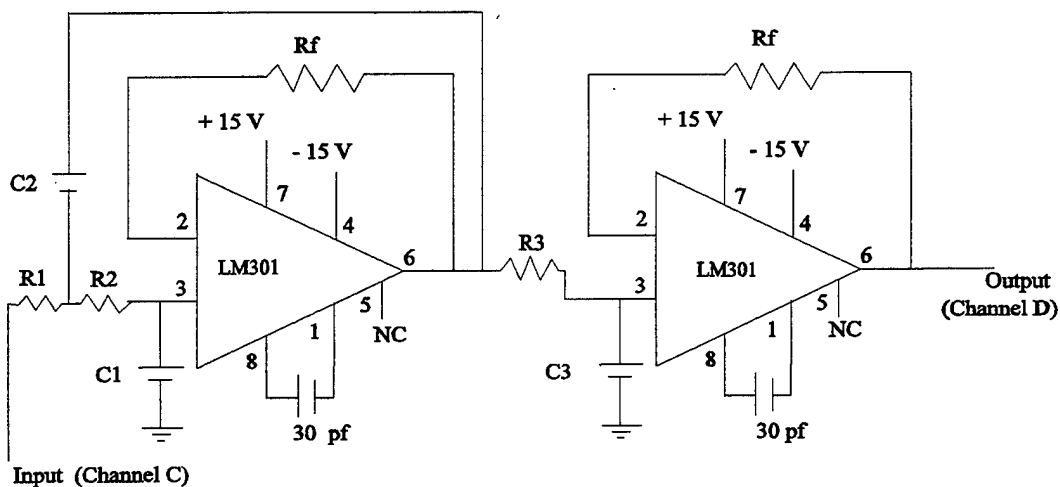

Figure 2 Lowpass Butterworth Filter
g) Turn off all power. Construct the LPF circuit of Figure 2 on the same breadboard. Connect the output (pin 6 on op amp 2) to channel D. Connect the output of the sample and hold to the input of the LPF (pin 3 on op amp 1). Turn the power on. Set the sample pulse at a frequency of 5 kHz. The LPF output should look like a filtered version of the input.